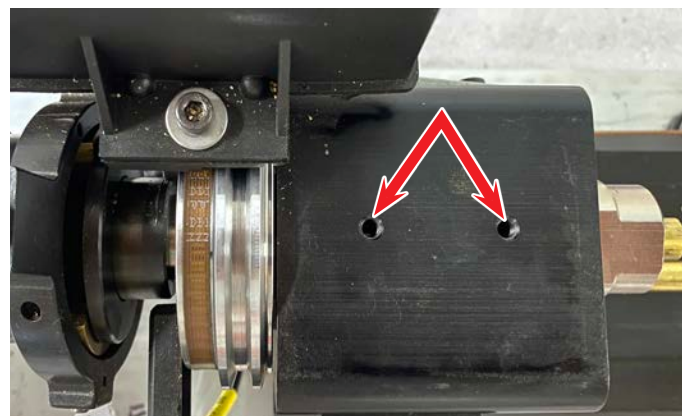

FIGURE 7
- A. There are two existing 10-32 holes in the top of the 3C Headstock (see Figure 7).